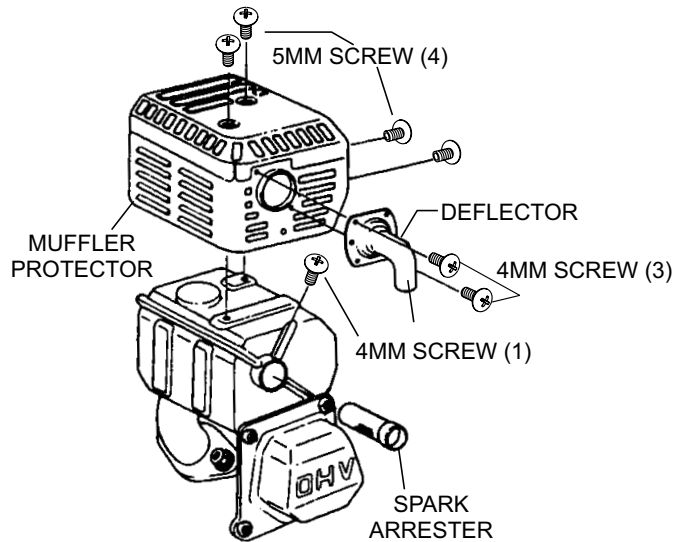

Figure 28. Spark Arrester Removal
1. Remove the 4 mm screw (3) from the exhaust deflector, then remove the deflector. See (Figure 28).
2. Remove the 5 mm screw (4) from the muffler protector, then remove the muffler protector.